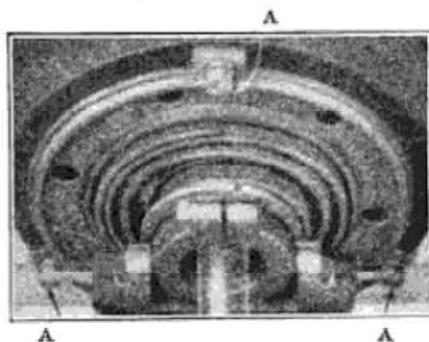

Fig. 1
1. Loosen all holding screws (A) until clutch cover will turn in flywheel. (Fig. 1.)